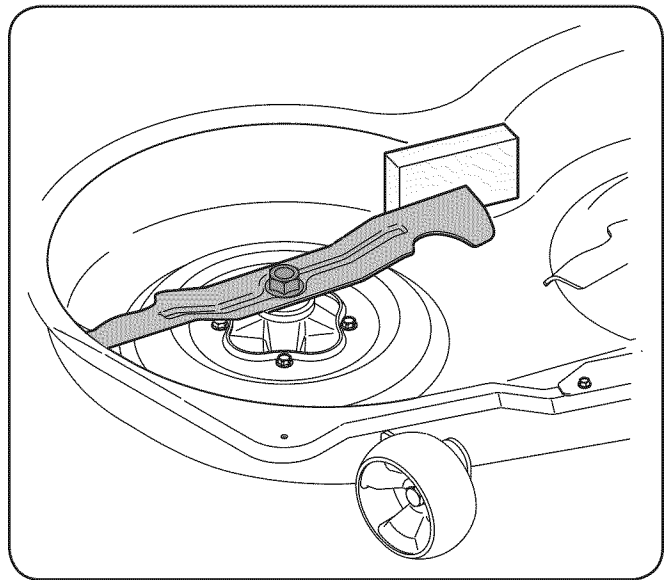

Figure 7-5
2. Place a block of wood between the center deck housing baffle and the cutting blade to act as a stabilizer. See Fig. 7-5.
3. Remove the hex flange nut that secures the blade to the spindle assembly. See Fig. 7-5